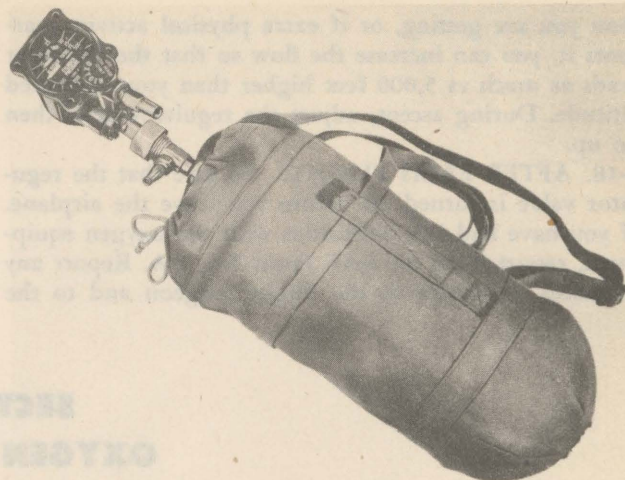

Figure 5-5. Portable Oxygen Assembly, A-6 Cylinder, A-9A Regulator, Filler Adapter and Sling
- b. A low-pressure cylinder, type A-6, with an A-9A regulator, a recharging adapter, and a sling. (See figure 5-5.) This may be fabricated locally from drawing No. 44B24619.